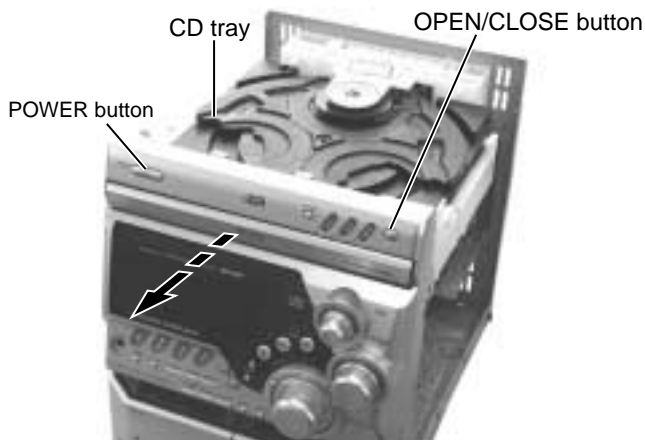

Fig.4
**■Removing the CD Tray fitting (1)**
**(See Fig. 4 to 6)**